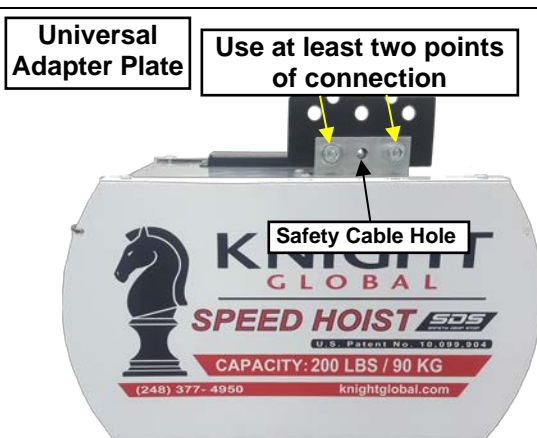

Figure 2-3
Ensure that there is a (2) two-point connection when using the universal adapter plate to hang the hoist from a structure. (Refer to Figure 2-3)
- 2) Insert the (2) two $\frac{1}{2}$ -13x1 $\frac{3}{4}$ " (grade 8 or better) socket head cap screws (SHCS) and (2) two washers.